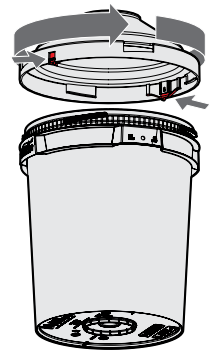

Figure 12. Bucket Funnel Removal
3. To remove the bucket funnel from the bucket, firmly press up on the two funnel locking buttons, then turn the bucket funnel counter-clockwise. See Figure 12.